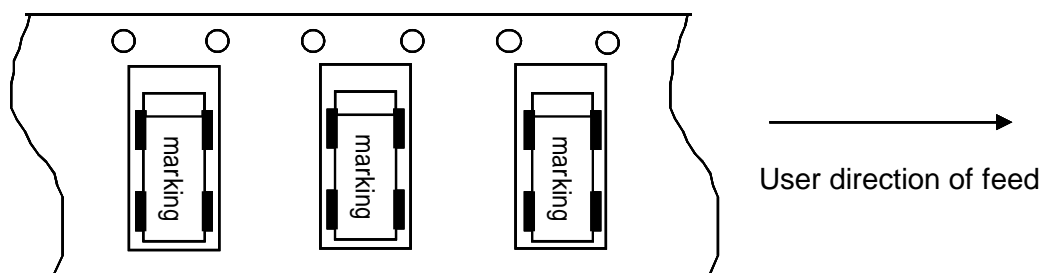

Fig. 1
- (1) Taping shall be placed in tapes in such manner as to assure that marking of the components is visible as per Fig. 1
[Figure 1]
- (6) Sample of the label display (display department, please refer to [Figure 1] [Figure 2])